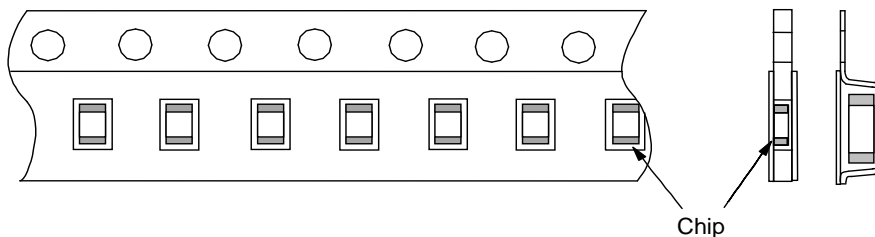

Fig.2 Dimensions of Reel
|       |                          |  <p style="text-align: center;">Fig. 1</p>   | <p>Solder the capacitor on the test substrate(glass epoxy board) shown in Fig1.</p> <p>Then apply a force in the direction shown in Fig 2 for 60s.</p> <p>The soldering should be done by the reflow method and should be conducted with care so that the soldering is uniform and free of defects such as heat shock.</p> <table border="1" style="margin-left: auto; margin-right: auto;"> <thead> <tr> <th>Type</th> <th>a</th> <th>b</th> <th>c</th> </tr> </thead> <tbody> <tr> <td>GCE18</td> <td>0.6</td> <td>2.2</td> <td>0.9</td> </tr> <tr> <td>GCE21</td> <td>0.8</td> <td>3.0</td> <td>1.3</td> </tr> </tbody> </table> <p style="text-align: right;">(in mm)</p>  <p style="text-align: center;">Fig.2</p>  | Type | a               | b | c                   | GCE18 | 0.6                      | 2.2 | 0.9                 | GCE21 | 0.8                      | 3.0 | 1.3                 |
1.11 Reel is made by resin and appeaser and dimension is shown in Fig 2. There are possibly to change the material and dimension due to some impairment.